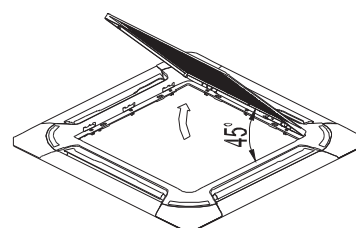

Fig.1-8
- Draw the grill up to an angle of about 45°, and remove it. (Refer to Fig.1-8)